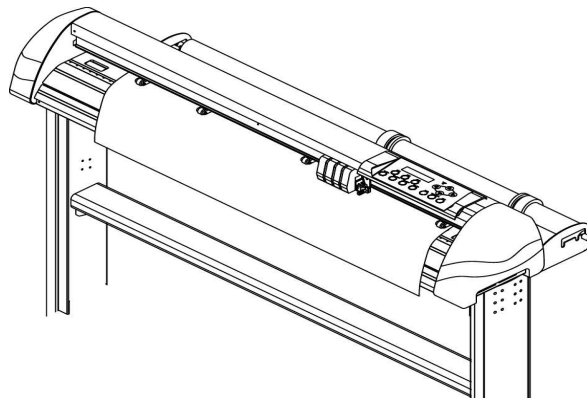

Figure 2-36
3. After loading the roll media all pinch rollers are raised at this stage, flatten the media on the platen and hold the front edge of the roll media firmly (Figure 2-36).